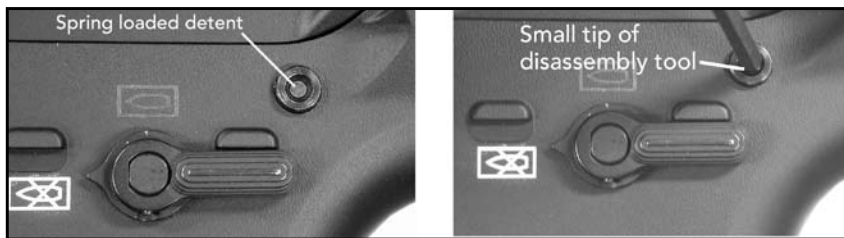

Fig. 52 – Detail of the rear Takedown Pin showing spring loaded detent.
- d. Insert the small tip of the disassembly tool into the spring loaded detent located in the center of the rear pivot pin. While pushing on the disassembly tool, drift the pivot pin from right to left until the pivot pin reaches its limit of lateral travel. The tip of the pivot pin should be visible on the left hand side of the lower receiver (Fig. 52).